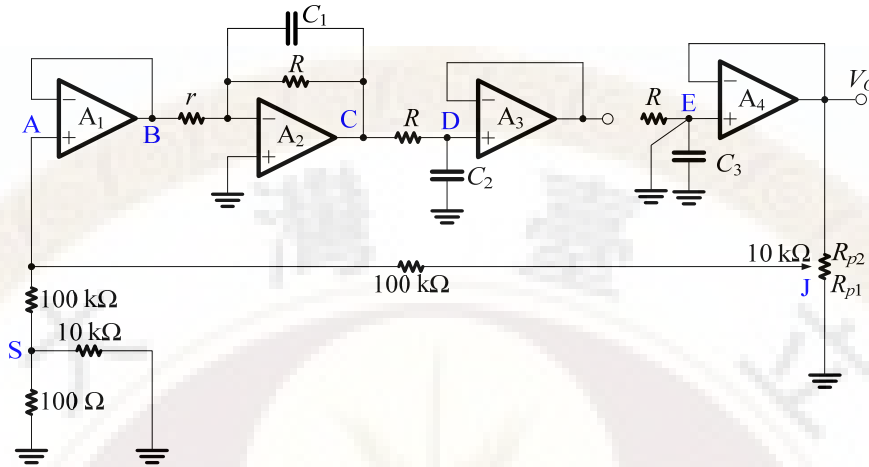

Fig. 6 DC Functional Confirmation of  $A_4$
(4) In the Fig. 6, short terminal **E** to the ground.
(5) Reference pin voltage for  $A_4$ ,
(7) Record the measured pin voltage for  $A_4$ ,  $V_{pin7} = \underline{\hspace{1cm}} \text{ V}$ ,  $V_{pin4} = \underline{\hspace{1cm}} \text{ V}$ ,